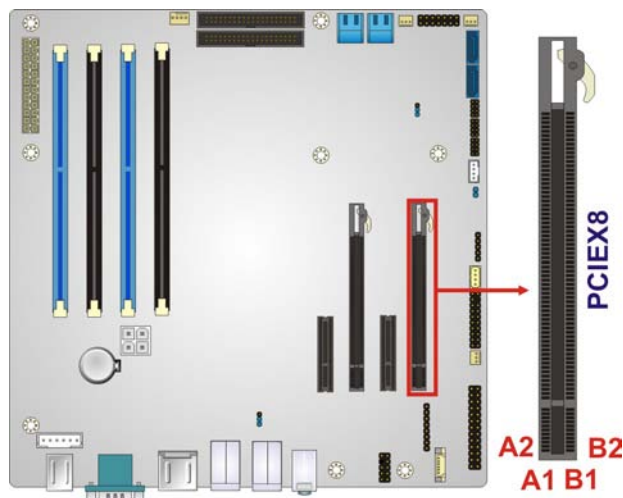

Figure 3-15: PCIe x8 Slot Location
- CN Location: See **Figure 3-15**